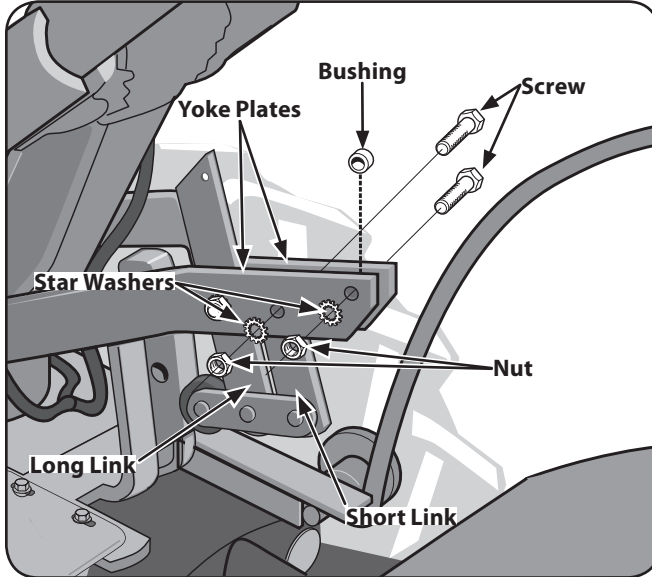

Figure 3-6
2. Remove both sets of nuts, star washers, screws, and one bushing from the yoke plates. See Figure 3-6. There is a bushing inside the short link. Be careful not to lose it when removing screw.